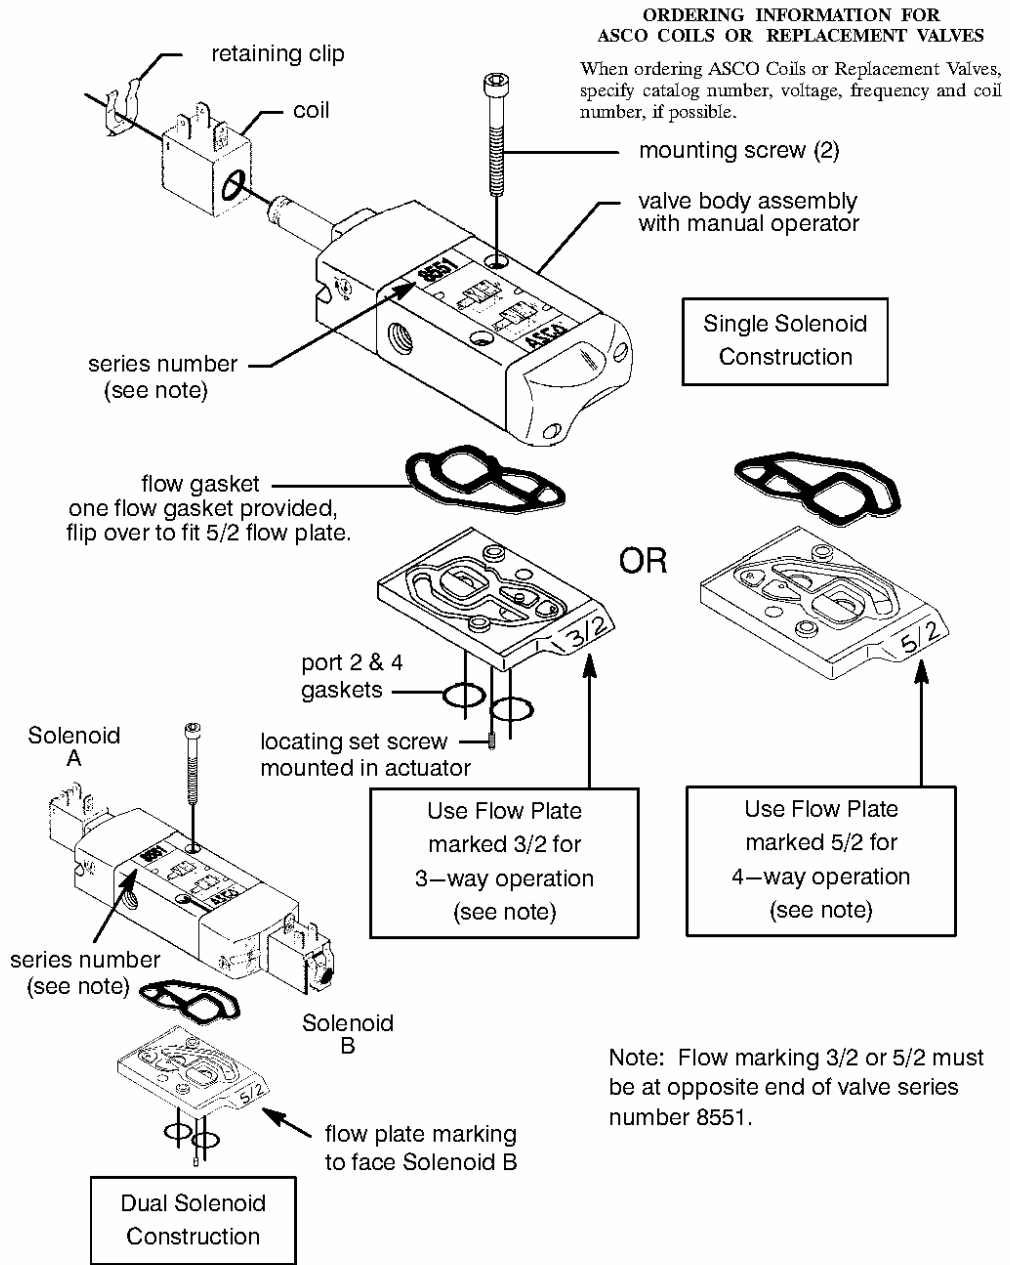

Figure 3. Series 8551 shown with prefix SC coil.
Flow Selection and Mounting (Refer to Figure 3)
Two flow plates are provided with each valve. Flow plates are marked (3/2) for 3-way or (5/2) for 4-way. For proper orientation of the flow plate, the marking (3/2) or (5/2) must be opposite series number 8551 flow diagram label on valve body or facing solenoid “B” for dual solenoid construction. See Figure 3. for proper orientation of flow plate, gaskets, mounting screws and locating set screw. Then proceed as follows:
1. Removal of Position Indicator (19,20), (Figure 3):
- A. Remove cap screw if fitted (39).
- B. Lift position indicator (19) off shaft; it may be necessary to pry gently with a screwdriver.